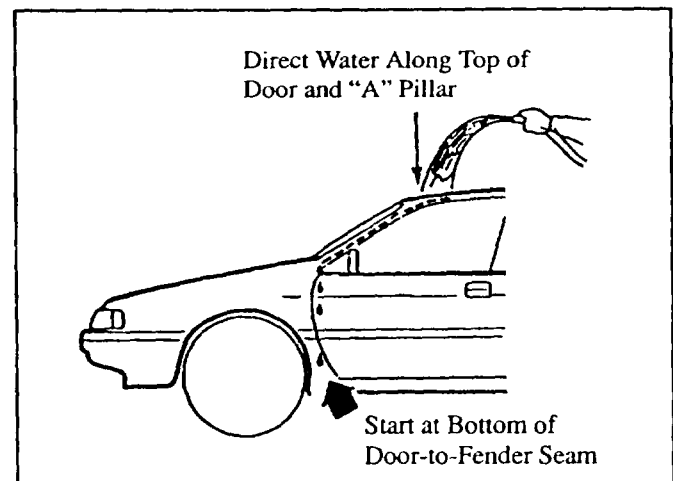

**Figure 10:** Area of Beltline Molding
1. While an assistant directs water along the beltline molding, inspect for water entering from over the plastic sill plate. **Figure 10.**
5. With the door closed, watch for water leaks during the hose test. Have an assistant slowly direct the water stream up from the bottom portion of the door-to-fender seam then up the "A" pillar to the top of the door and around the windshield. Next, have the assistant slowly direct water along the window beltline molding (if the vehicle is a four door, perform this test on both the front and rear doors.) **Figures 10 and 11.**